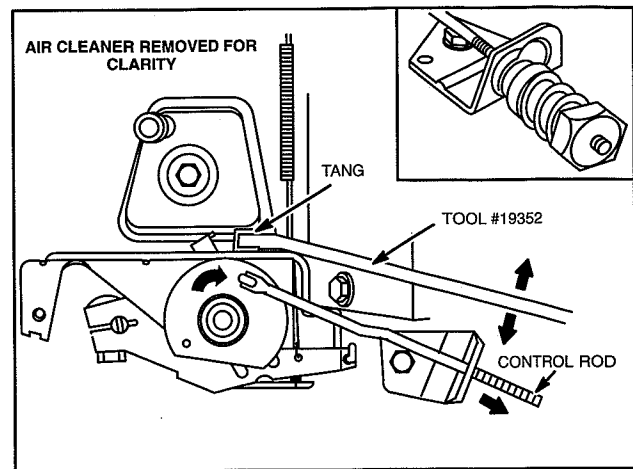

Fig. 26 – Adjusting Top No Load Speed
1. With engine running, pull control rod out until swivel is against stop and hold in this position, Fig. 26.
3. Re-install control nut, spring and retainer. Turn nut clockwise until threads on control rod are visible from end of nut, Fig. 26.